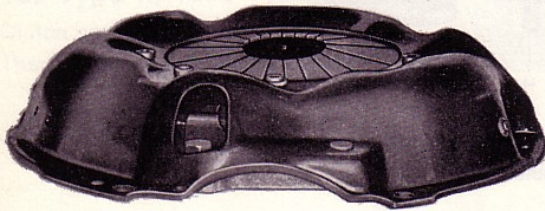

Fig. 3. Clutch, Borg & Beck
The clutch is of the single-plate, dry-disc type, and is available in various types. Two of these types are shown in Figs. 3 and 4. For the right combination of clutch and release bearing, see the spare parts catalogue. On the early prod. type clutch, see Illustration A, the pressure plate (22) is operated by three levers (31) which are actuated from the clutch pedal (18) via the hydraulic control system. The necessary pressure is obtained from six strong pressure springs (24). The clutch release bearing (25) is guided by a tubular extension on the bearing cover of the input shaft.